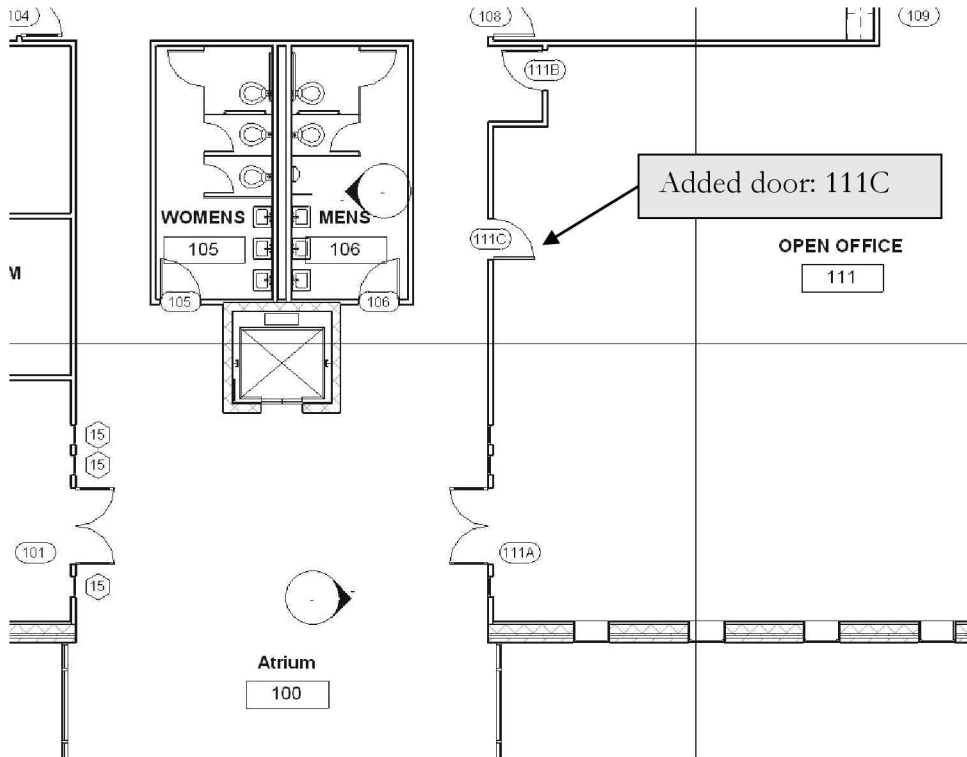

FIGURE 12-2.5 Level 1 – door added
8. Add a door as shown in **Figure 12-2.5**; number the door **111C**.